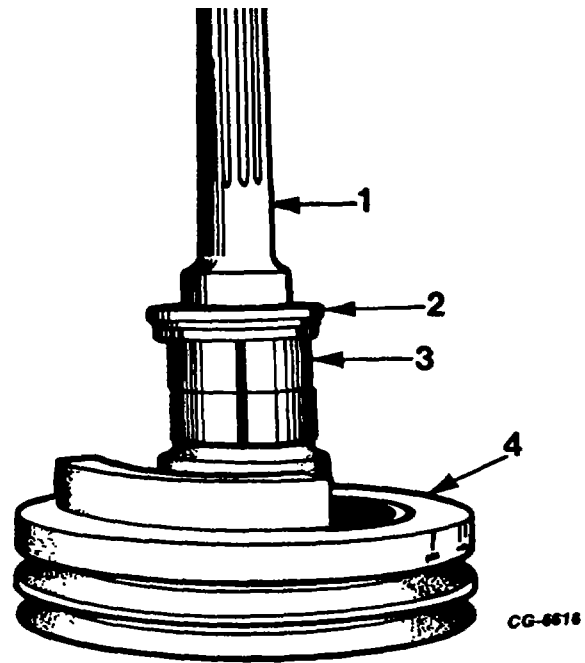

Figure 169. Installing Front Oil Seal Wear Sleeve
- b. Heat wear sleeve in boiling water and position on pulley hub. Using handle and 7.3 cm (2-7/8 inch) diameter adapter from SE-1905 tool set, press wear sleeve onto pulley hub until flush with end of hub (Figure 169).